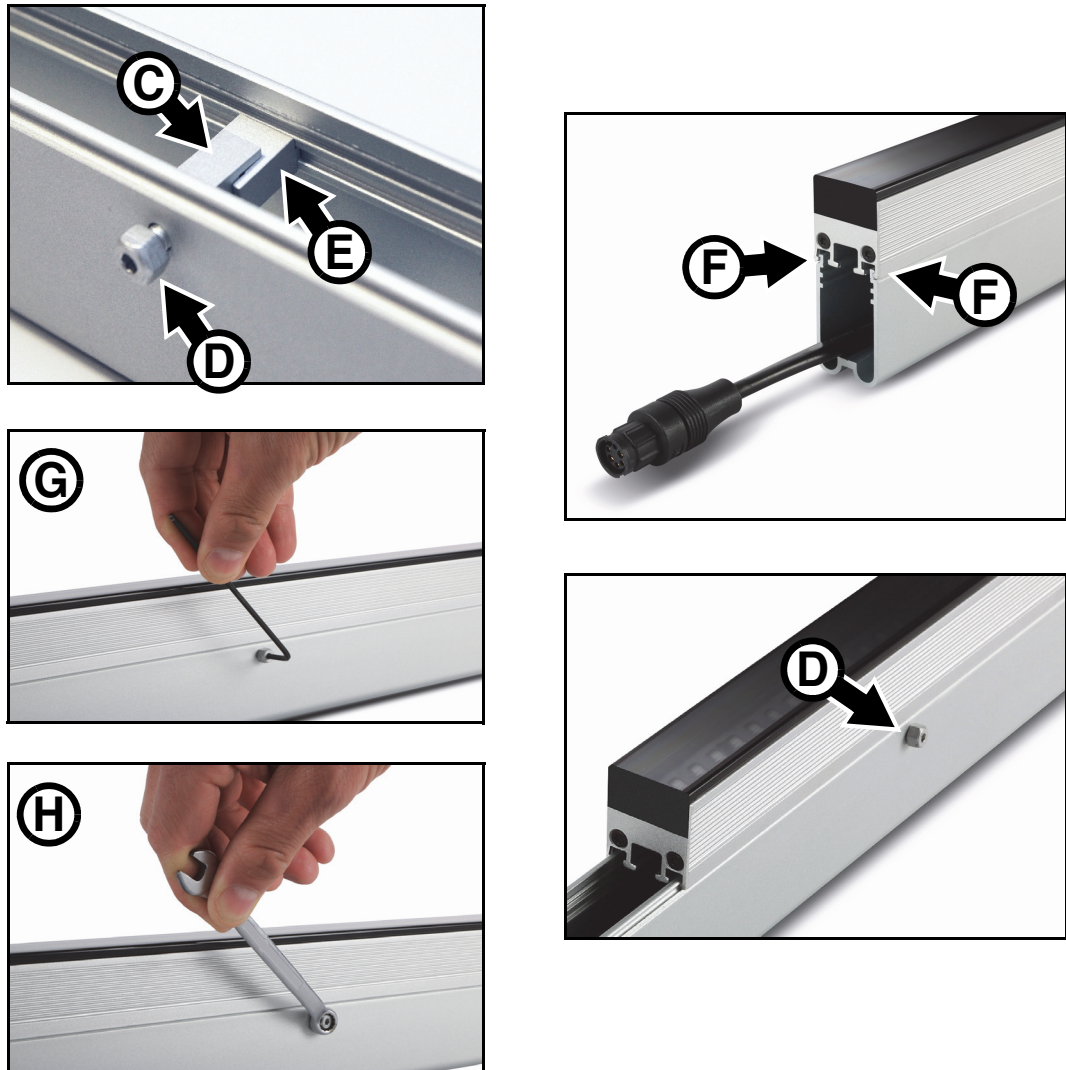

Figure 4: Mounting Profile Lock
Allow free airflow and 10 mm (0.4 in.) minimum clearance around the fixture. You must also allow clearance around mounting locks for access with a wrench or Allen key (see Figure 4 on page 15).
6. See Figure 4. Prepare one mounting profile lock **C** per 310/320 mm fixture or minimum three mounting profile locks per 1270/1280 mm fixture. Apply a small quantity of Loctite 243 to the threads of the lock bolts **D**. Place each lock **C** in position so that it engages with the grooves in the profile as shown at **E** and tighten the bolt **D** finger-tight only.